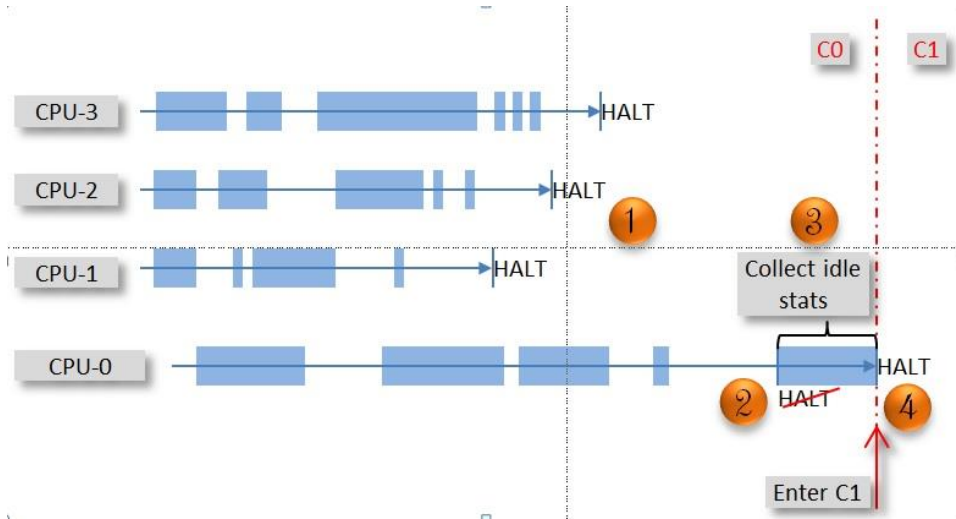

Figure 1. Dropping a core into a core-C1 state
C0 to Core-C1 Transition: Look at Figure 1. C1 happens when all 4 hardware (HW) threads supported by a core have executed a HALT instruction. At this point, let us now think of each of the 4 HW threads as the Operating System (OS) perceives them, namely as 4 separate CPUs (CPU 0 through 3). Step 1: the first three CPUs belonging to that core execute their HALT instruction. Step 2: that last CPU, CPU-0 in the illustration, attempts to execute its HALT instruction. Step 3: it interrupts to an idle residency data collection routine. This routine collects, you guessed it, idle residency data and stores that data in a data structure accessible to the OS. CPU 0 then HALTs. Step 4: at this point, all the CPUs are halted and the core enters a core-C1 state. In the core-C1 state, the core (and its “CPUs”) is clock gated^v.
There are two parts to controlling power management on the Intel® Xeon Phi™ coprocessor, the PM SW that runs on the coprocessor, and the PM component of the MPSS Coprocessor Driver that runs on the host. See figure 1. The coprocessor part controls transitions into and out of the various core C-states. Naturally, when it is not possible for the PM SW to run on the coprocessor, such as for package Deep-C3 and package C6, the host takes over. Package Auto-C3 is shared by both.